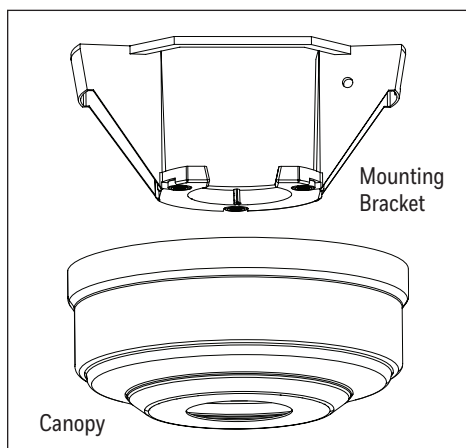

Figure 2.1
1. Firmly hold canopy while pulling up the magnetic mounting bracket to remove (Figure 2.1).